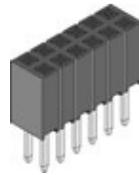

Figure 66 Expansion Connector
**Figure 66** is a picture of the connector. These are dual row 23 position 2.54mm x 2.54mm connectors.